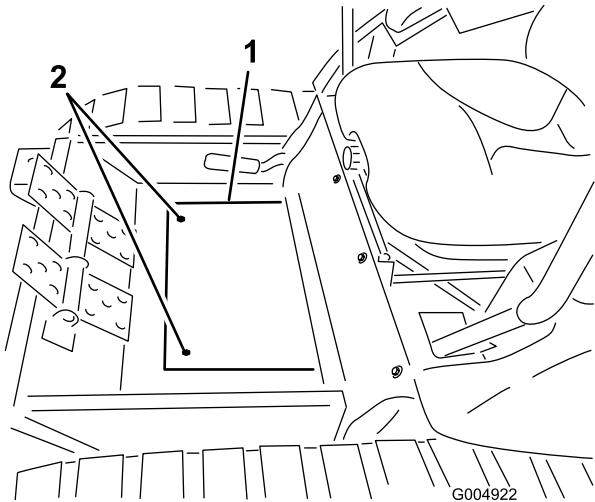

Figure 16
3. Remove the two screws securing the winter frame floor plate cover to the floor and remove the plate (Figure 16).